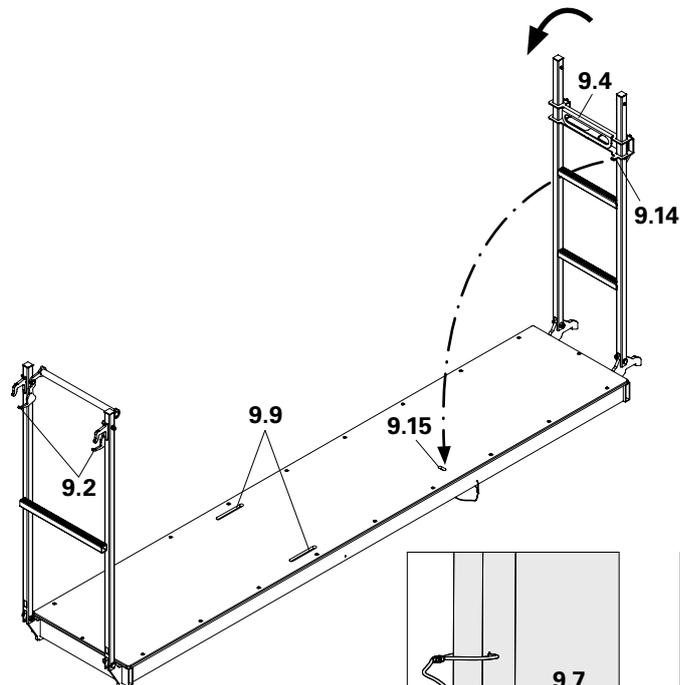

Fig. A1.34
Yellow bar with lug (Fig. A1.34)
- Assembly Deck 250. (Fig. A1.34 + A1.35 + A1.36)